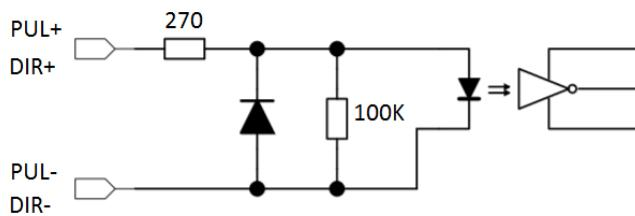

Figure 4.7
Pulse/Dir (CW/CCW) inputs are opto-isolated differential inputs with  $270\Omega$  resistor as shown in figure 4.7. Maximum source current for the diode is 25mA.
**Important Note:** If voltage across is greater than 5V, make sure to add current limiting resistor to limit the current to 50mA across the diode. Figure 4.7 shows the detailed schematic of the opto-isolated pulse and direction inputs.